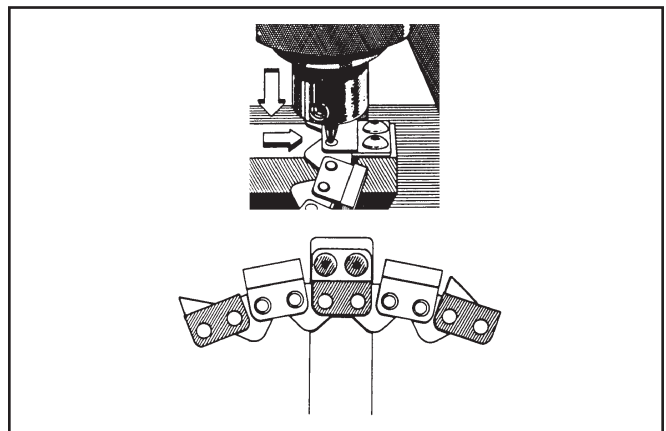

Figure 15. Removing a Rivet
3. Position the rivet head you want removed directly under the chain-breaker punch and then pull the handle down far enough to remove the rivet (Figure 15). Do not use excessive force.